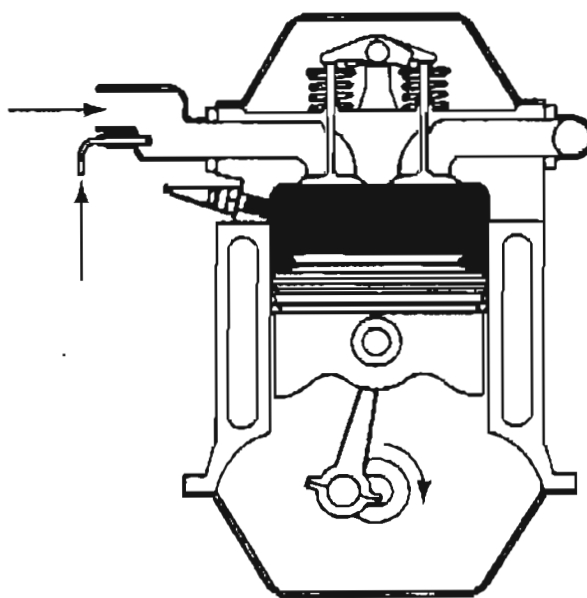

Figure P6.11
- *6.11** Examine Figure P6.11 of a cylinder that is part of a Ford 2.9 liter V-6 engine. Pick a system and state it.